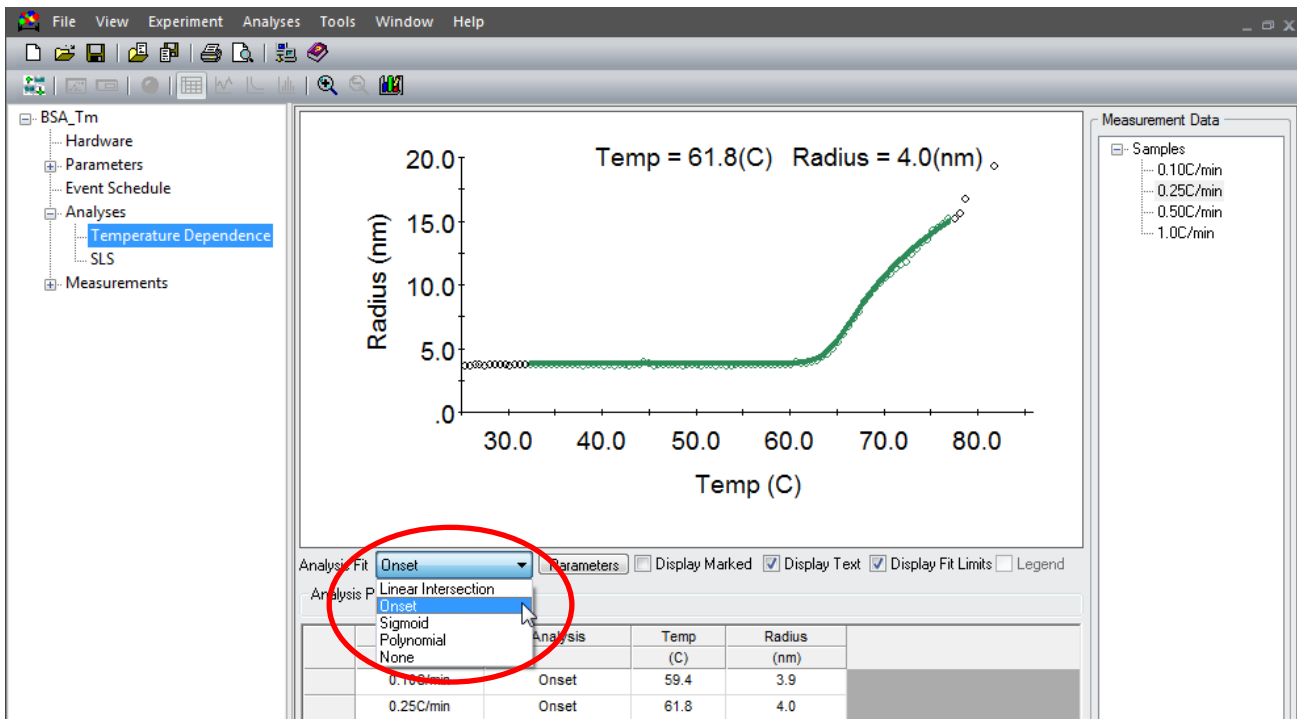

Figure 10: Selecting an Analysis fit in the Temperature Dependence analysis window.
- 2) In the **Temperature Dependence** window, select your **Sample** from the **Measurement Data** window on the right. Select the desired **Analysis Fit** from the pull down menu as shown in Figure 10. For this example, Onset analysis is used to determine T_{onset} . You can find each sample's analysis fit type, onset temperature, and radius at the onset temperature displayed in a table below the graph as shown in Figure 11. Each analysis fit is detailed below.